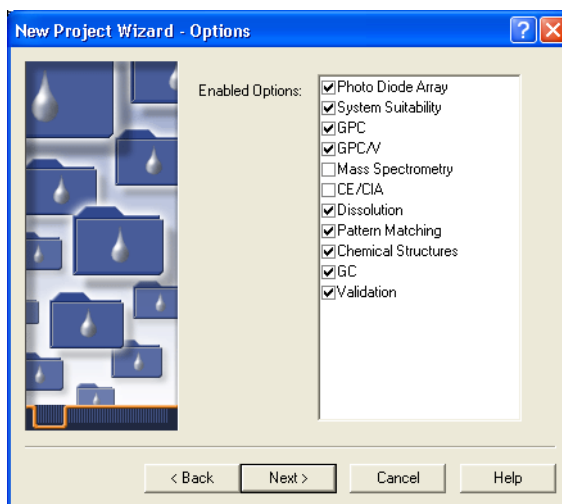

Figure 3-11 New Project Wizard–Options Page
4. Click **Next**. The Options page appears (Figure 3-11). Check the options that apply to the project.